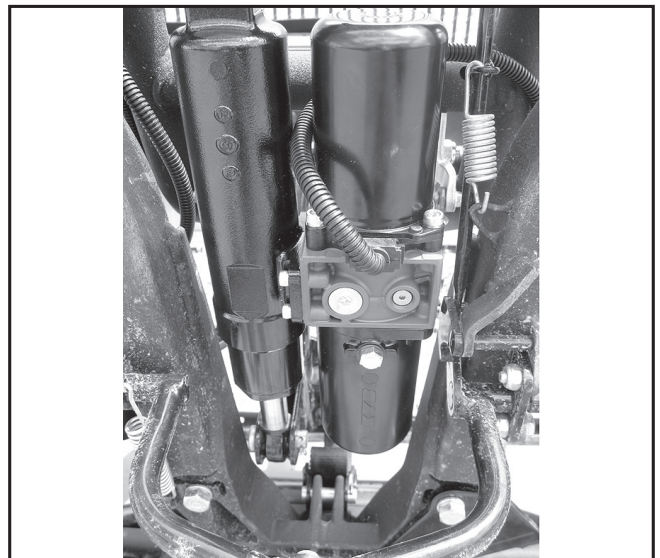

Figure 12
5. Route the power wires between the motor and the lift cylinder as shown in figure 12.